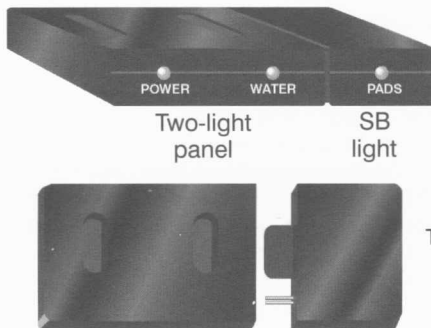

FIGURE 20
The two-light panel (**Figure 20**) features a green light marked **POWER**, to indicate the System has electrical power, and a yellow light marked **WATER**, which blinks when the Humidifier needs water. If the System includes the optional Smart Bracket (SB), there will be a single-light cube with a red light for the SB. The red light, marked **PADS**, will blink when the pads need to be replaced. Connect the two-light panel and single-light cube together (**Figure 20**) by inserting the tongue-latch and two prongs (on the side of the single-light cube) into the corresponding openings on the two-light panel. Insert the metal prongs first while firmly pushing the panels together. **NOTE:** the tongue-latch is slightly bent to create a snug fit between the two panels.